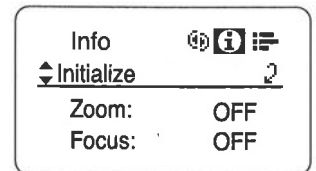

Fig7-4
3. Move the down key twice, and then press the Set key. The display is switched to the Initialize screen. (Fig.7-4)